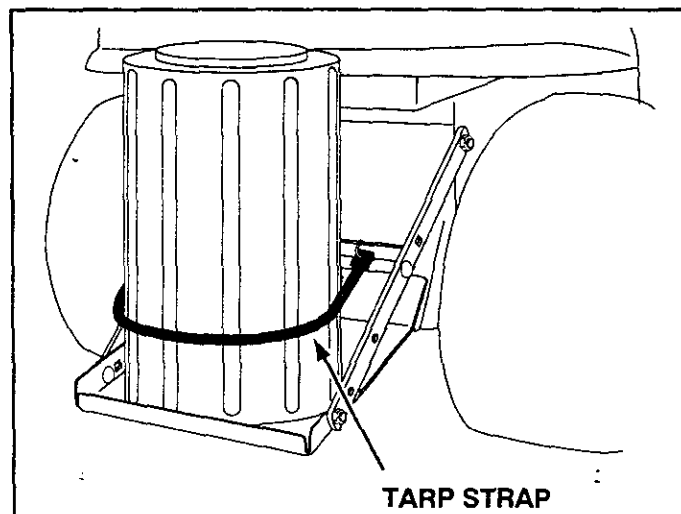

FIGURE 20 VIEWED FROM REAR
- Secure the keg with the rubber tarp strap hooked into the holes in the cross brace. See figure 20.